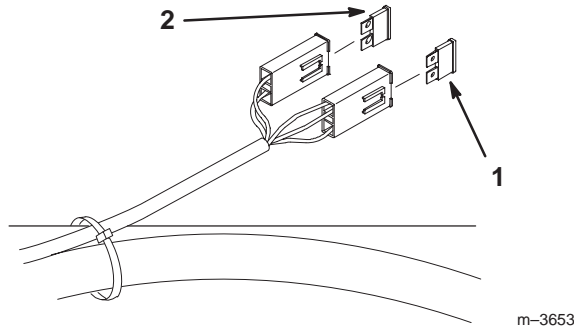

Figure 63
1. Raise the seat to gain access to fuse holder (Fig. 63).
2. To replace fuses pull out on the fuse to remove it (Fig. 63).
3. Install a new fuse (Fig. 63).